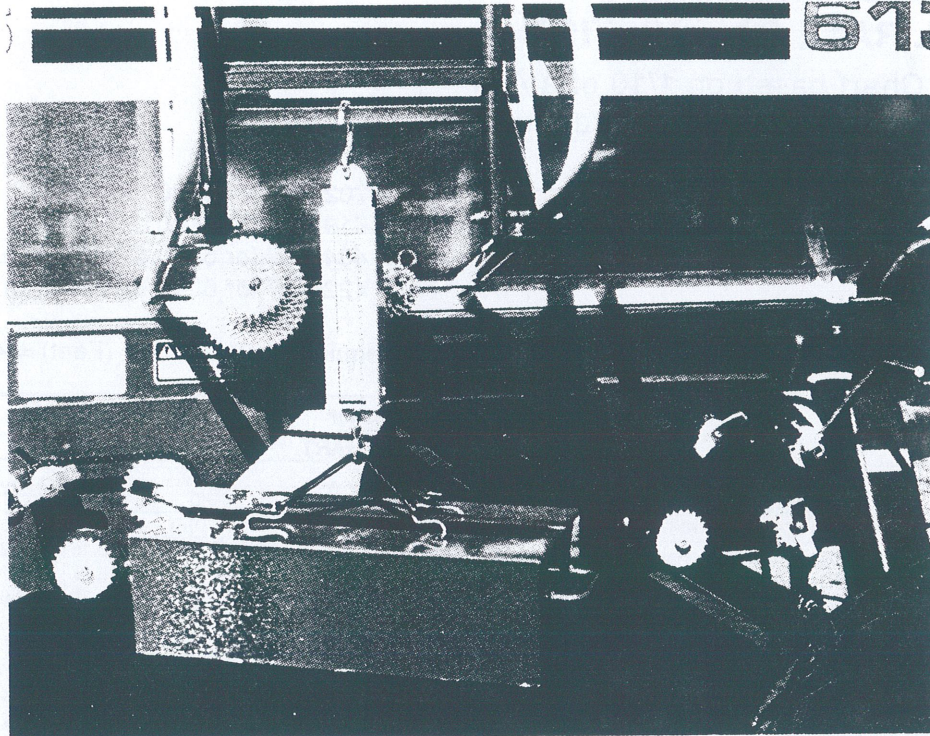

Figure 30
- Weigh the sample by using tarp straps to hook rate check box to spring scale. (See Fig. 30).